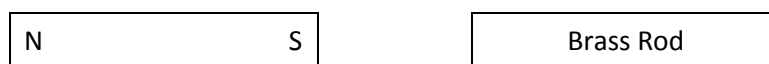

**Figure 4**
8. Place the two circular magnets into the centre tube of the oil filled container, arranged as shown in Figure 4, with like poles facing.
9. Allow the iron filings to settle in the form of the magnetic field around the magnets. Sketch the field in Figure 4.